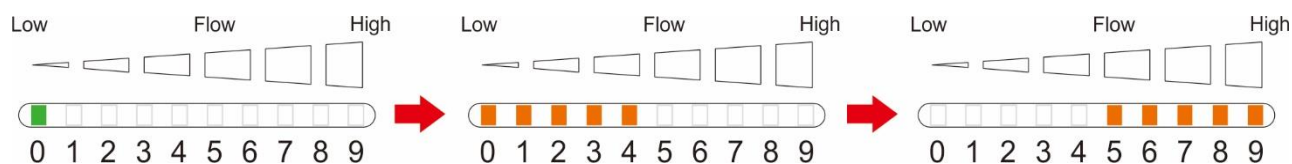

Figure 15
(2) Normally open contact (NO) switches to normally closed contact (NC):
Press and hold the left arrow key ◀ for about 1 second and the LED 0 lights up. Keep pressing and holding the left arrow key ◀ for about 5 seconds and the LED 0 flashes. After it keeps flashing for about 5 seconds, the LED 0~4 light up in orange simultaneously. After lighting up for 5 seconds, they switch to the LED 5~9 lighting up in orange at the same time. The LEDs flash thrice simultaneously and the normally open contact (NO) switches to the normally closed contact (NC) right away. Release the button (Figure 15).